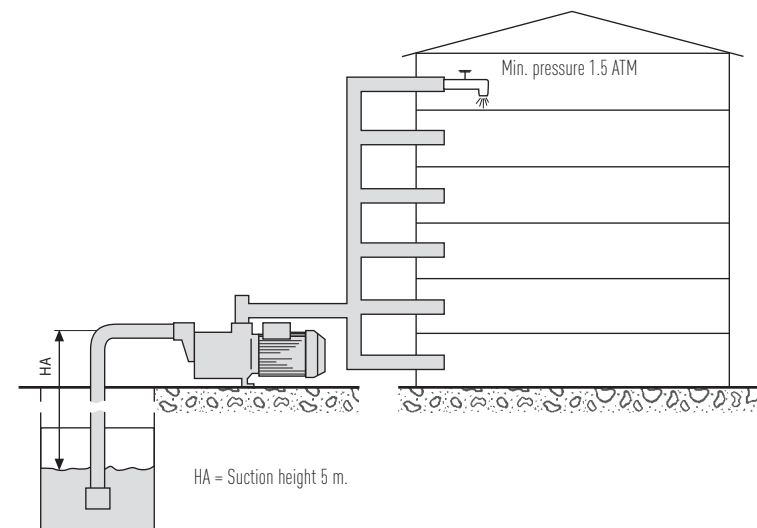

Fig. 4
Case (C) Starting as per case A, after which the value obtained is added to the value in meters between the water level and the unit. (See Fig. 4) The data obtained, with reference to the tables of